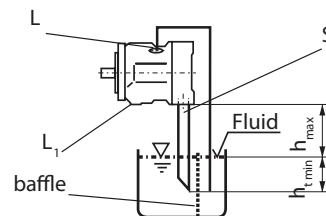

fig. 4
Pipe port "L" and "S" acc. to fig. 4, port "L₁" closed. (compare limiting conditions)
a) When mounting above the reservoir: see fig. 4 (compare item limiting conditions)